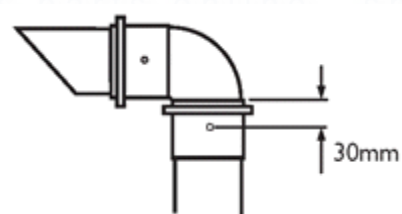

Fig. 21L
13. Mark and drill the 60Ø exhaust, using a 2mm bit, as shown in Fig. 21L. Complete the installation of the 60Ø exhaust, securing in the brackets.